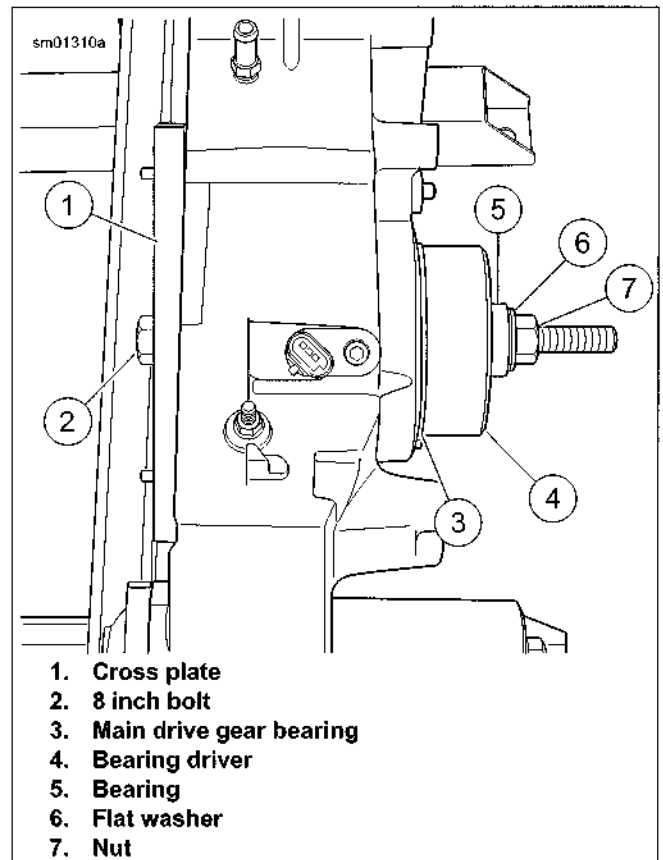

Figure 5-50. Installing Main Drive Gear Bearing
- See Figure 5-50. Insert 8 INCH BOLT (Part No. HD-35316-4A) (2) through cross plate (1) and main drive gear bearing bore (4).
- Place main drive gear bearing (3), BEARING DRIVER (Part No. HD-35316-8) (4), BEARING (5), FLAT WASHER (6) and NUT (7) over end of bolt.